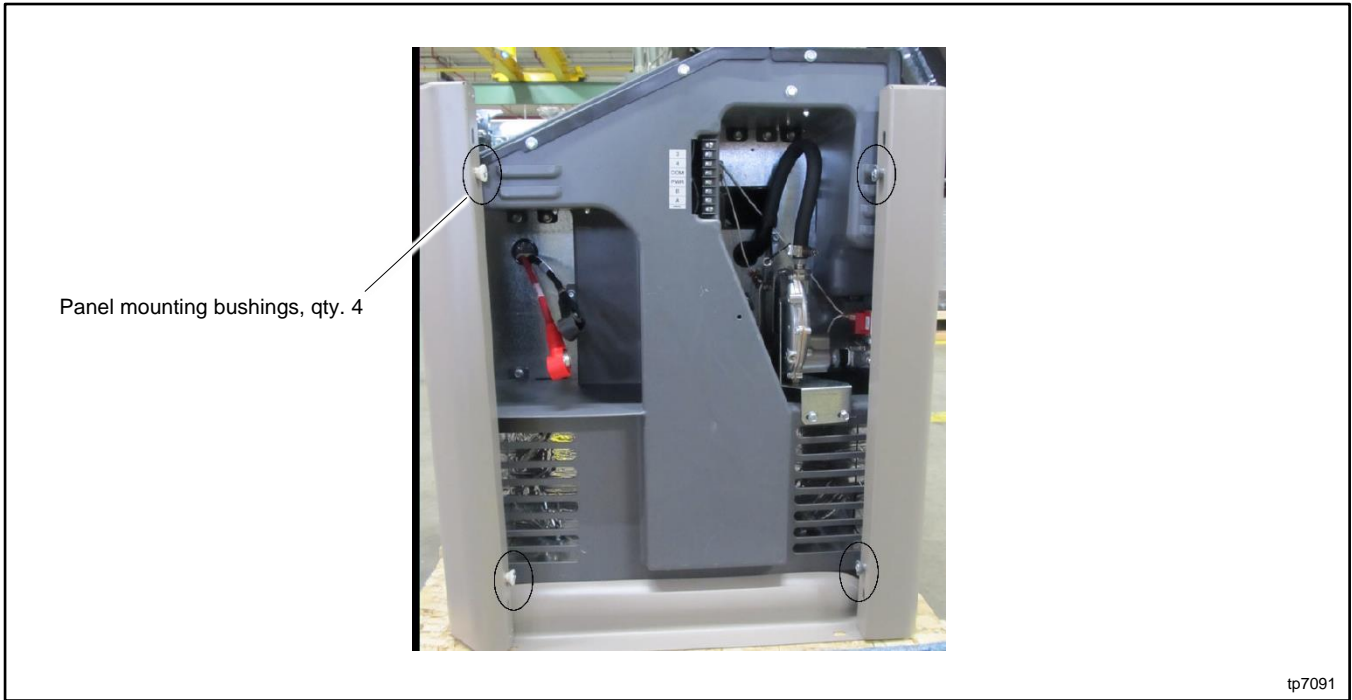

Figure 112 Panel Mounting Bushings (air intake end panel shown)
4. The front (air intake) panel hangs on four 20 mm (0.8 in.) diameter bushings. Pull the air intake panel up and off. See Figure 112.